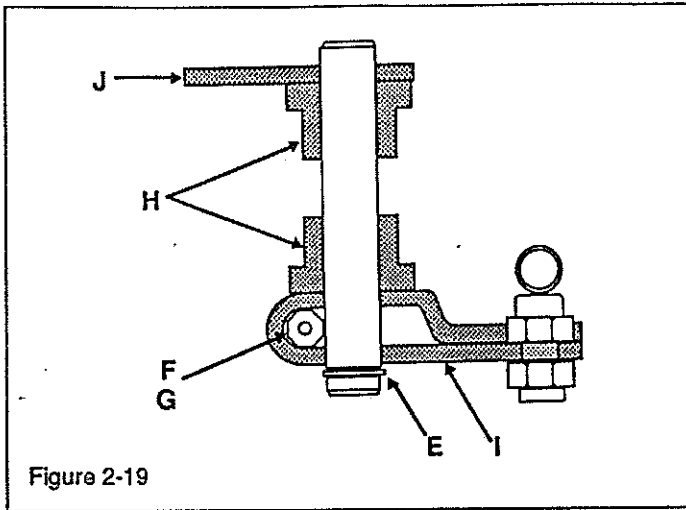

Figure 2-19
- Remove retaining ring (E, Figure 2-19). Loosen the 3/8-16 x 2-14 bolt (F) and locknut (G).
- Pull the sector gear assembly (J) upwards, toward steering column to remove.
- At this point, the flange bearings (H) located on the steering support assembly, may be replaced.
- Slide spindle arm (I) through the sector gear shaft.
- Install retaining ring (E) on sector gear.
- Re-tighten 3/8-16 x 2-1/4 bolt (F) and nut (G).